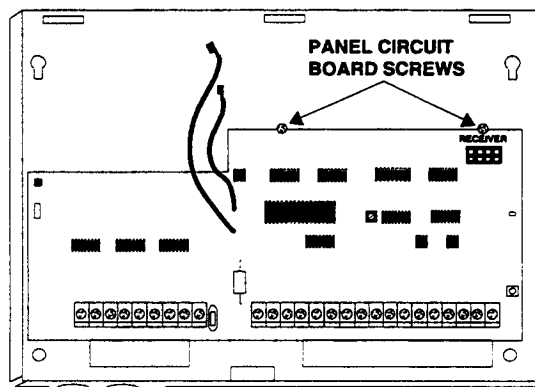

Figure 2. Panel Circuit Board Screw Locations
- 1) Loosen, but do not remove the two Panel circuit board screws (see Figure 2).